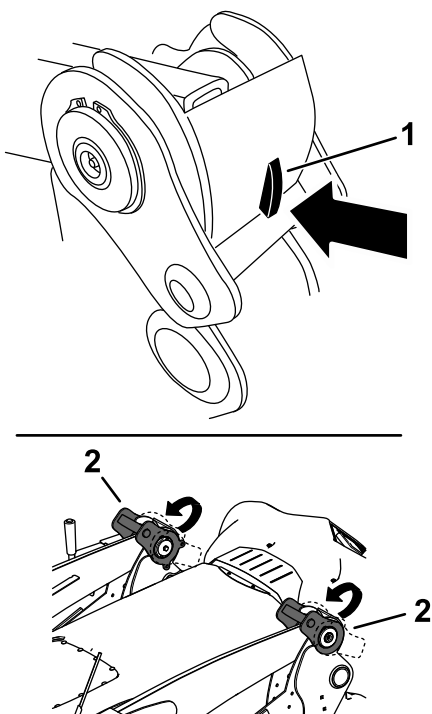

Figure 47
3. Press down on the latch lock on each loader-arm latch and raise the latches to unlock the loader arms from the machine (Figure 47).